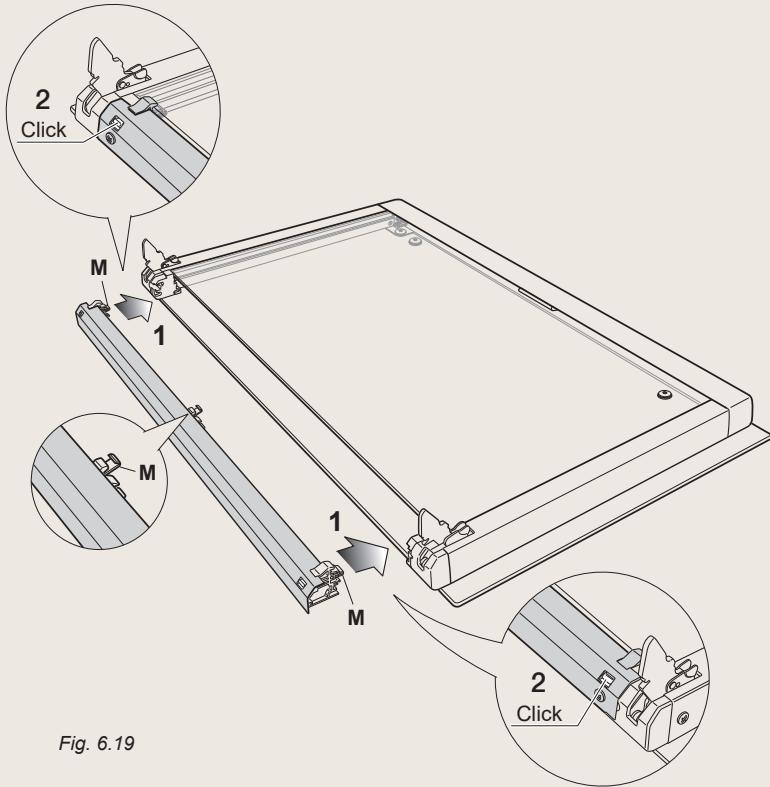

Fig. 6.19
1. Position the glass retainer, as shown in the figure 6.19. It should sit on the bottom edge of the outer glass. Check that the clamps "M" are not deformed or damaged.